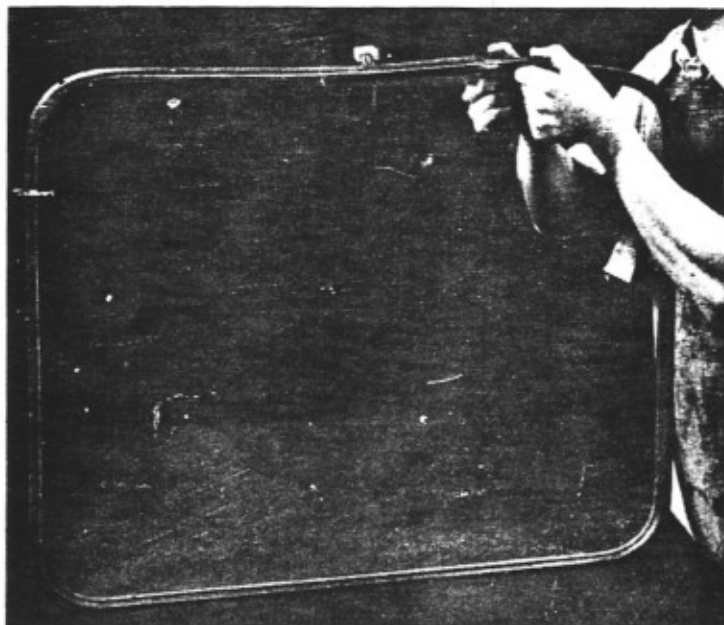

Figure 138
12. After rubber is applied check to see that breather is correctly located. If not lift rubber from top edge of glass and firmly pull until it is. (See Figure 138) Then work rubber down sides and across bottom to make even application.